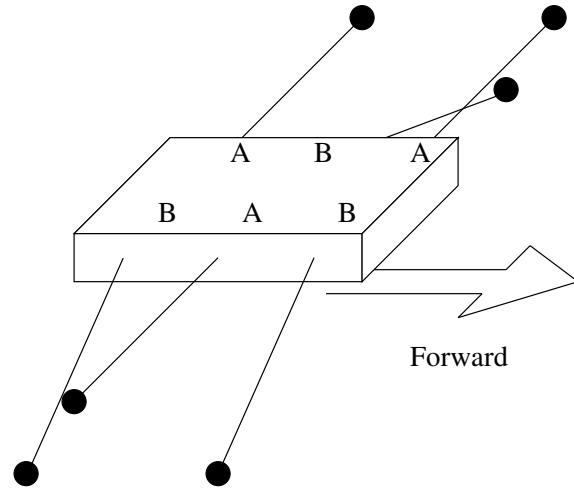
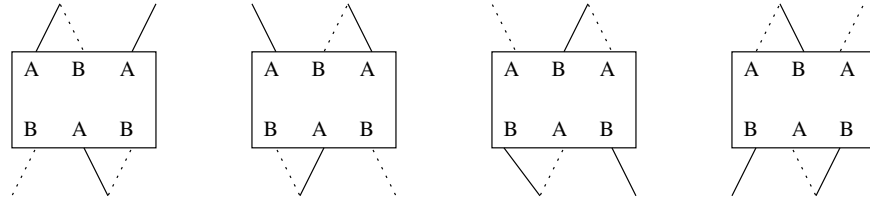

Figure 7.20: A hexapod walking robot.
Figure 7.21: The walking gait of the hexapod robot.
- (16 pts.)** Build a FSM which make the hexapod robot shown in Figure 7.20 walk forward.
The hexapod robot walks by moving three legs in unison; see *A* and *B* in Figure 7.20. The movements of *A* and *B* are coordinated so that, at times, the hexapod is balanced on three legs. A portion of the walking gait is shown in Figure 7.21; note that in this figure the viewer is looking down at the top of the robot which is moving to the right. The dotted legs are assumed to be in the air, solid legs are in contact with the ground.
Assume that the legs can move to their correct position in one clock cycle. Define each state as a position of the legs in Figure 7.21. Draw the state diagram, and determine the memory input and output equations.